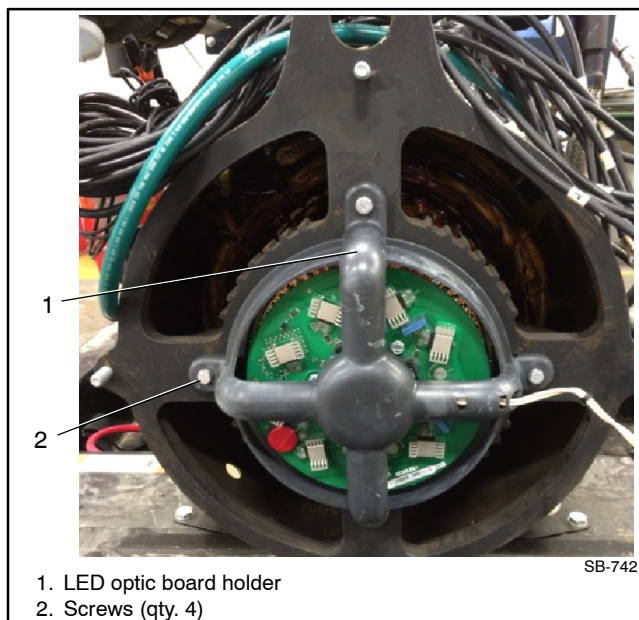

Figure 2 Removing LED Optic Board Holder
- 3.1 Remove the 4 screws and the LED optic board holder. See Figure 2.